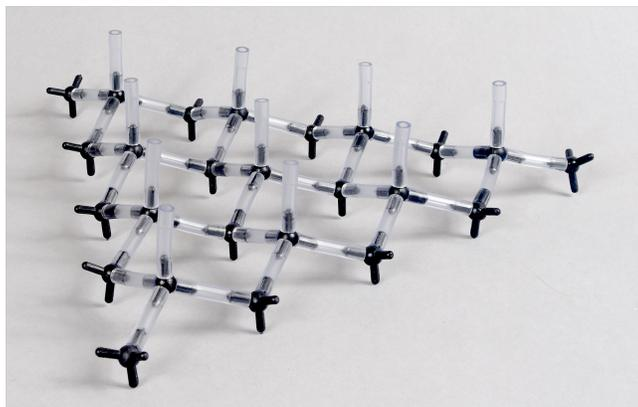

Fig. 12 Layer A with ten vertical bonds.
11. Attach ten bonds to the ten “up” carbons of layer A as Fig. 12 illustrates.